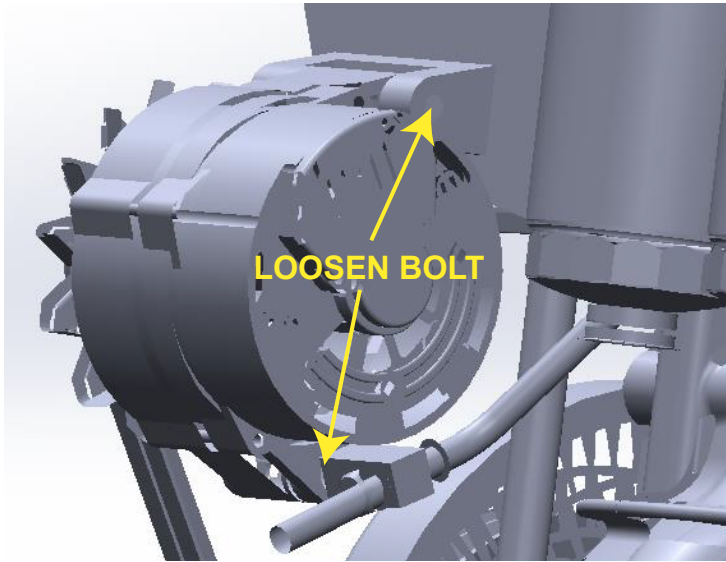

FIGURE 31 - DIESEL ENGINE DRIVE BELT
- Loosen the bolts that hold the alternator in position. The alternator has a slotted bracket and tension nuts that will release the tension on the drive belt. See FIGURE 31.
Rotate the drive belt tensioner in the counter-clockwise direction and re-install the drive belt. Make a visual inspection that the drive belt centerline is in alignment with the other pulleys. See FIGURE 31.